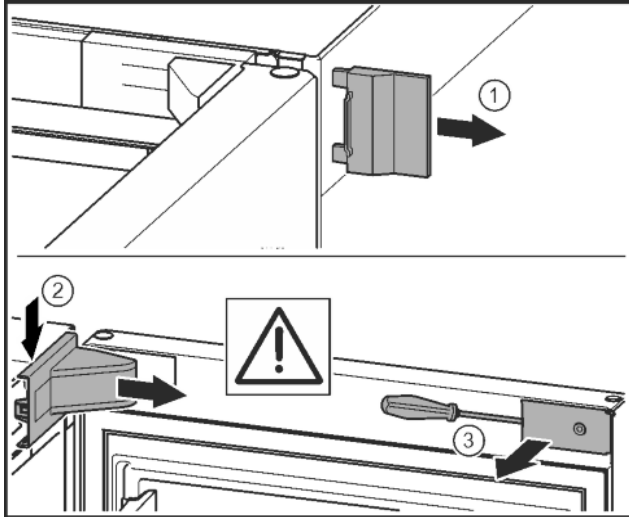

Fig. 7
- ▶ Remove the outer cover. *Fig. 7 (1)*
- ▶ Disengage and release the bearing bracket cover. Remove the bearing bracket cover. *Fig. 7 (2)*
- ▶ Unlatch the panel with a slotted screwdriver and swivel it to one side. *Fig. 7 (3)*